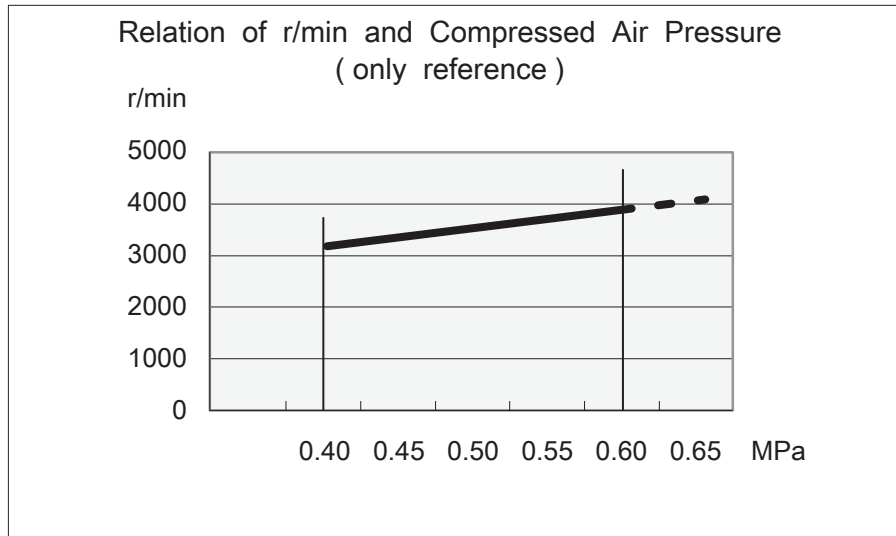

Figure 5 Relation of r/min and Compressed Air Pressure
Relation between speed and air pressure could be referred to the below Figure 5.
- (1) Referring to Figure 5 in page 8, adjust the pressure of compressed air so that it rotates at the speed specified by the manufacturer of flexible polishing pad.
- (2) Close the airflow control valve fully and open again slightly.
- (3) Turn ON the switch lever
- (4) Adjust the airflow control valve slowly until it opens completely little by little
- (5) With this condition, make test run for the specified period of test run time described below in this page.